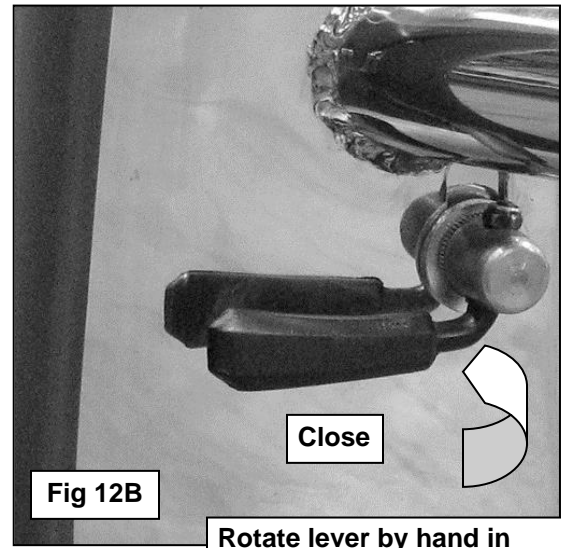

Fig 12B
13. Push the Grille Guard back towards the vehicle until it is upright, check the alignment again and adjust the Grille Guard as required. Tighten all Mounting Bracket hardware including the Quick Release Bolts, **(FIGURE 12B)**.
4. Once the hood is completely closed, push the Grille Guard back to its closed, upright position and tighten all hardware on the Grille Guard. Rotate the lever on the Quick Release clockwise to tighten, **(FIGURE 12B)**. No tools are required to close the Quick Release levers. It will require some effort to open and close by hand when properly adjusted.